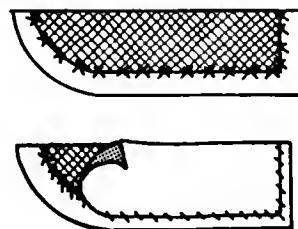

Fig. 131E. A double wool welt.
3. A double wool welt may be interfaced and constructed by hand also (Fig. 131E).